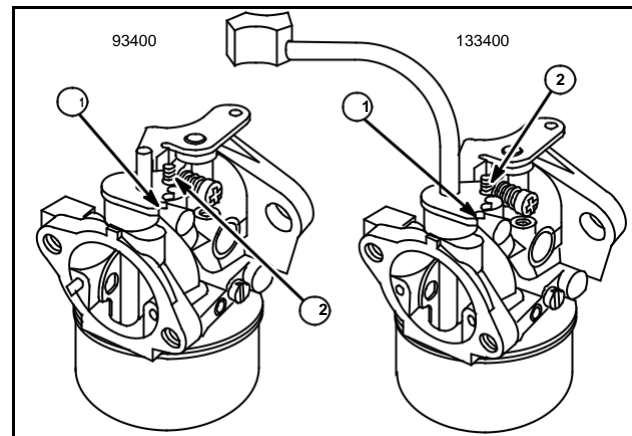

Fig. 112
Install foam seal and choke shaft in carburetor body with choke plate detent (1) against detent spring (2), (Low Emissions type shown) Fig. 112.